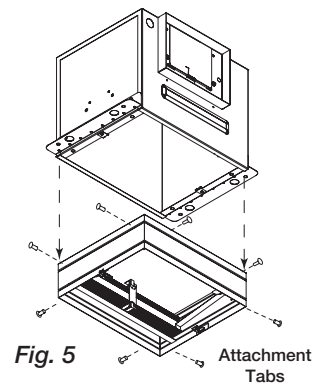
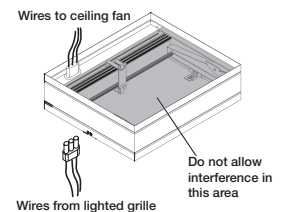

Fig. 5 Attachment Tabs
Fig. 6
3. To mount the ceiling radiation damper to fan, make sure grille attachment tabs are facing down. Then place the inlet part of the fan into the ceiling radiation damper collar, and use self-tapping sheet metal screws (by others) to screw through the damper collar and into the fan housing, shown in Fig. 5. If the fan/light combination is being used, make sure ceiling radiation damper has a electrical plug in it. The electrical plug must be inserted into the fan. Make sure the electrical wire will not interfere with damper operation, shown in Fig. 6.